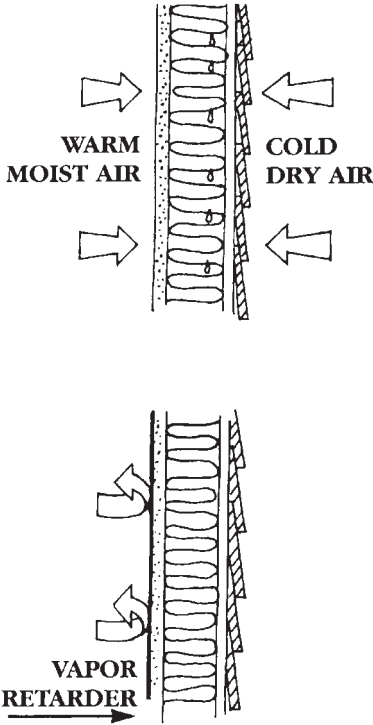

Figure 4.1 Moisture migration.
5. Vapor traps (i.e., double vapor barriers) formed between two vapor-resistant components must be avoided4 (Fig. 4.1).